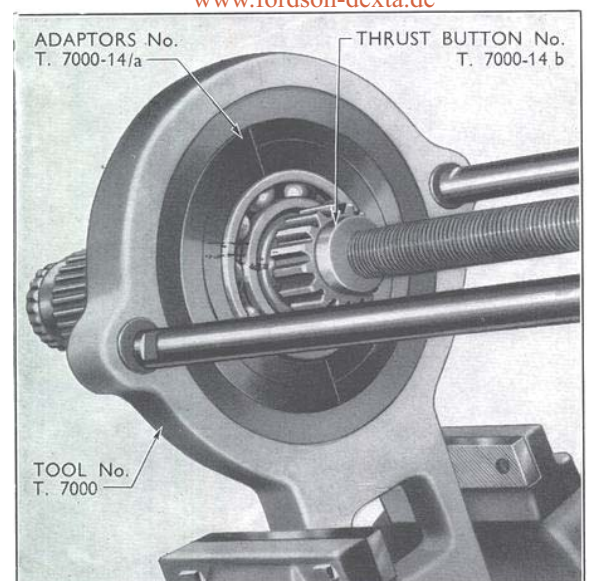

Fig. 28
*If so desired, the rear bearing may be withdrawn from the countershaft using adaptors T.7000-14/a and thrust pad T.7000-14/b in Tool No. T.7000 as illustrated in Fig. 28.*